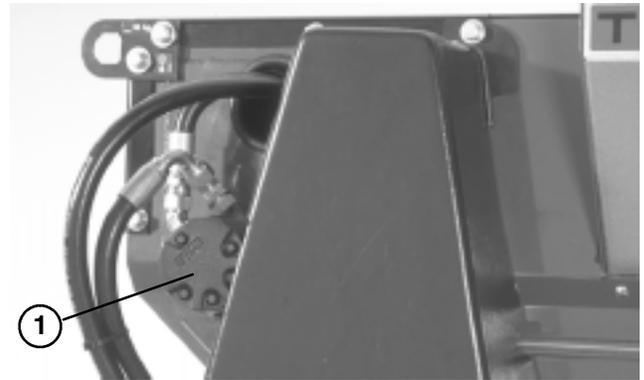

Figure 17
2. Loosen nuts securing brush motor (Fig. 17) to left side of machine.